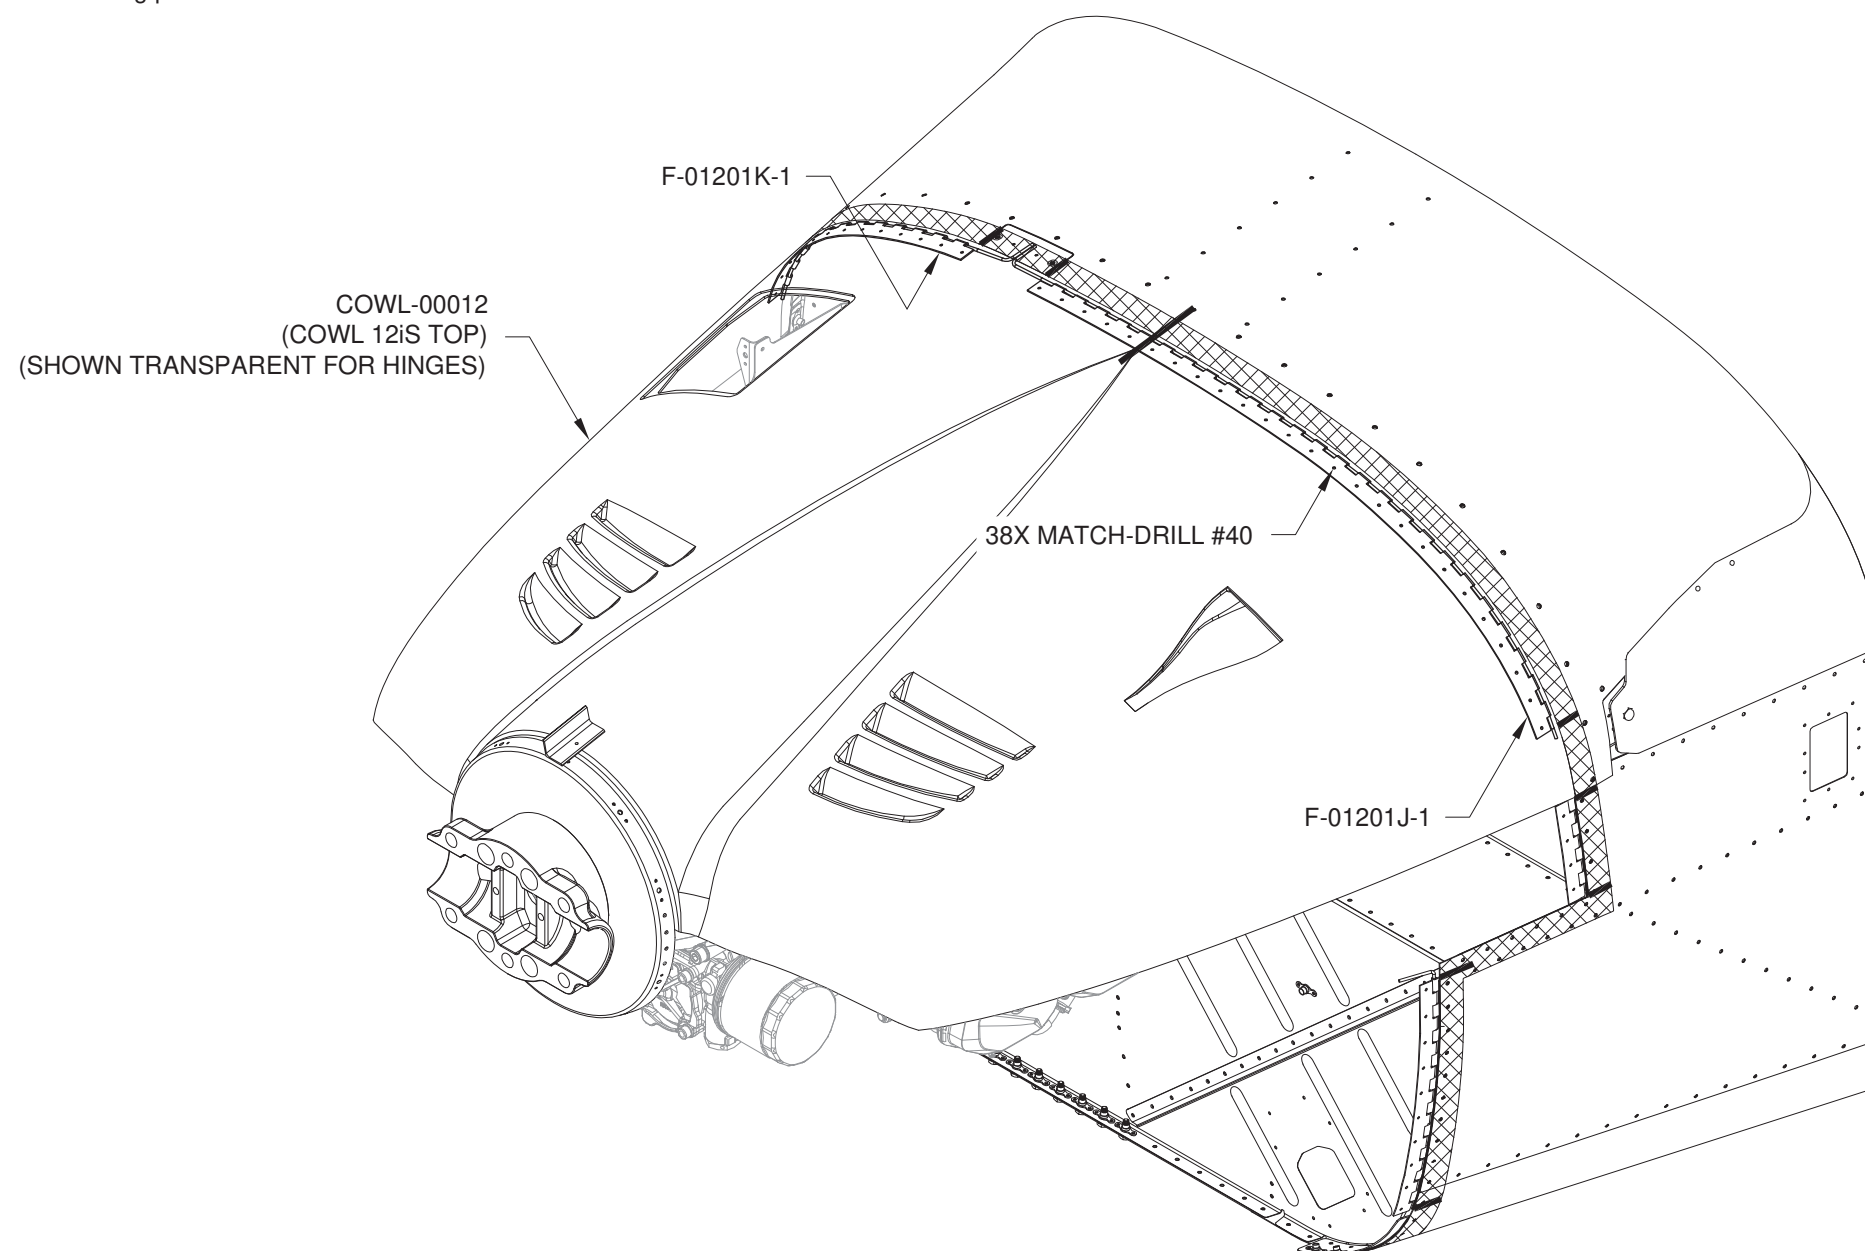

FIGURE 1: MATCH-DRILLING THE UPPER HINGES
Step 2: Match-Drill #40 the holes from the top cowl into the F-01201J-1 & K-1. Match-Drill from inboard to outboard, one hole at a time, while alternating left and right sides. Verify that the top cowl remains properly aligned throughout the drilling process. See Figure 1.
Step 1: Mark lines on the tape to indicate the upper ends of the F-12116-L-1 & -R-1 and F-12117-L-1 & -R-1 hinges as shown in Figure 1.